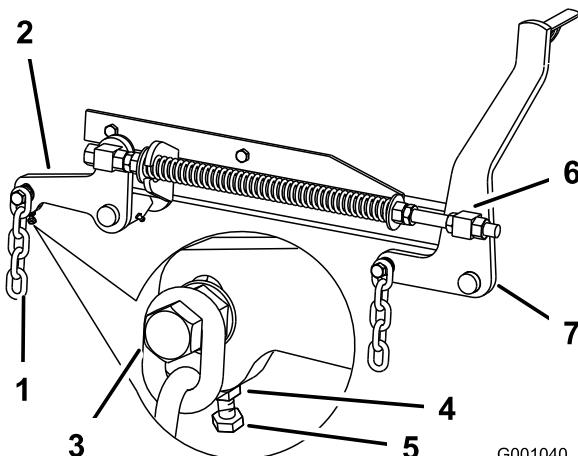

Figure 69
7. If the measurements at positions **B** or **C** are not correct, loosen the bolt attaching the rear chain to the rear support arm (Figure 69).
8. Loosen the jam nut under the rear support arm and adjust the adjustment bolt to get a measurement of 3-1/8 to 3-1/4 inches (Figure 69).
7. Loosen the front swivel jam nuts, at the front of the right and left swivels, approximately a 1/2 inch (13 mm) (Figure 69).
(6 to 10 mm) lower in front at **A** than in the rear at **B** (Figure 69).